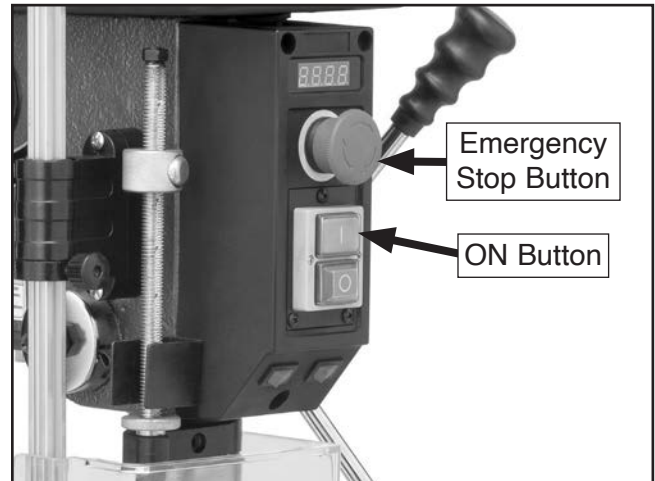

Figure 28. Location of power controls (T33959 shown).
2. Press Emergency Stop button (see **Figure 28**).
5. Press green ON button (I) to start spindle rotation (see **Figure 28**). Verify motor starts up and runs smoothly without any unusual problems or noises.